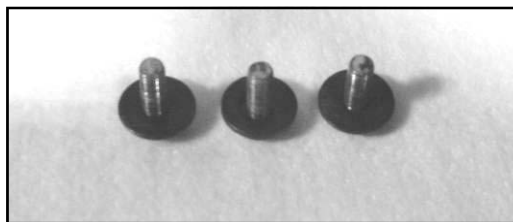

Fig. 1.2 (hex head flanged bolts)
1.2 Per figures 1.2 and 1.2a, remove six bolts (3 per side) that hold the floor mats in place. Save the bolts for re-installation in step 17 on page 10.
17.1 Re-install the OEM hardware to hold the rubber floor mats down. Ref.: fig. 1.2 on page 3 (3 bolts per side of tractor).